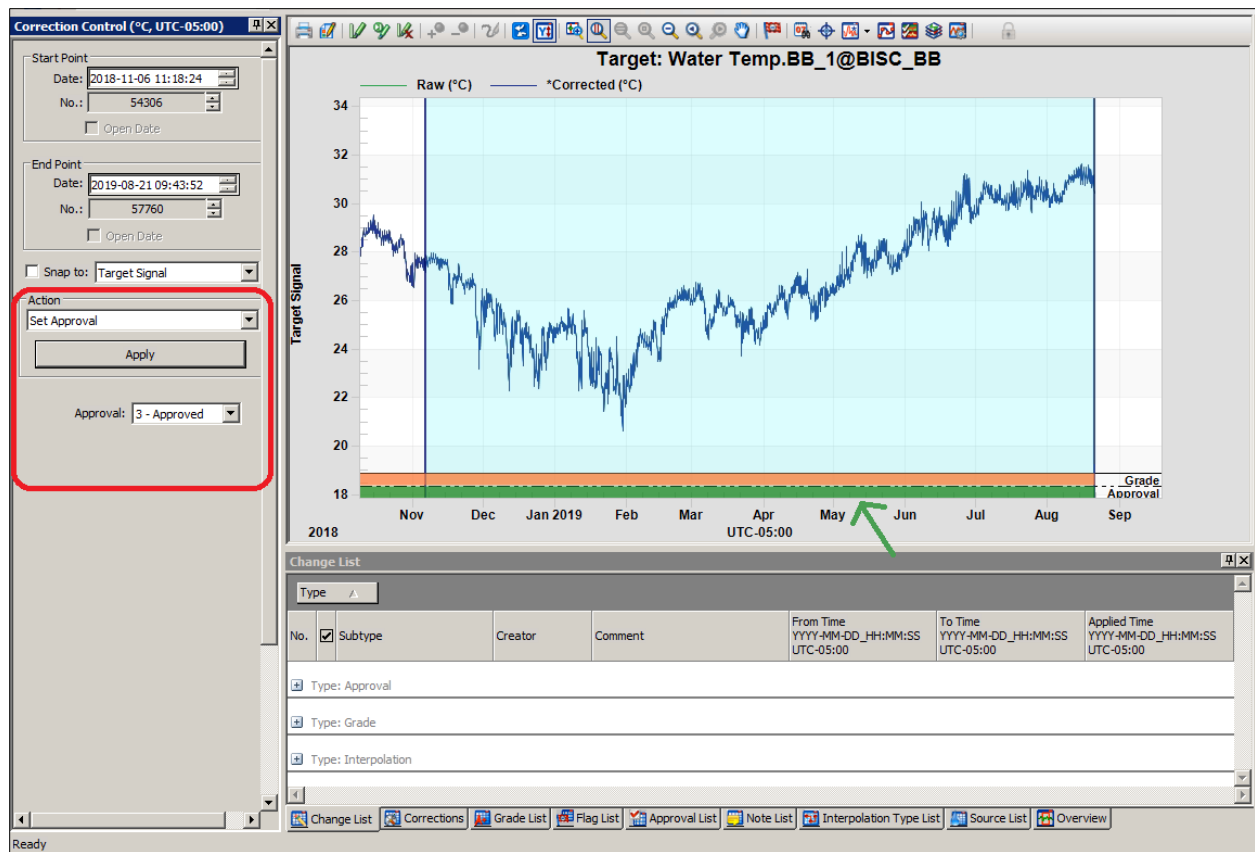

Figure 8. Screenshot showing the Set Approval option selected from the Action drop-down menu, highlighted within the Aquarius Data Correction.
9. To set the “Approval” to “APPROVED,” make sure the new data are still selected, then select “Set Approval” from the “Action” drop-down list at the left side of the window. Under the “Approval” drop-down menu that appears, select “3 – Approved.” Click Apply. Click OK in the window that appears. The bottom bar should now be green instead of light blue, denoting its approval (Figure 8).